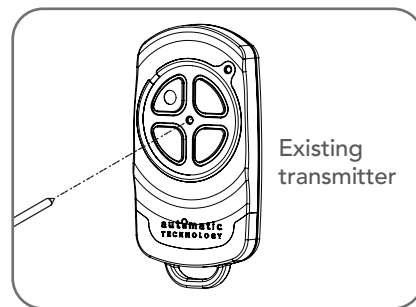

Fig 11.1
- Use a small pin / pen to press and hold through the Coding Hole of the existing transmitter for 2 seconds (**Fig. 11.1**).